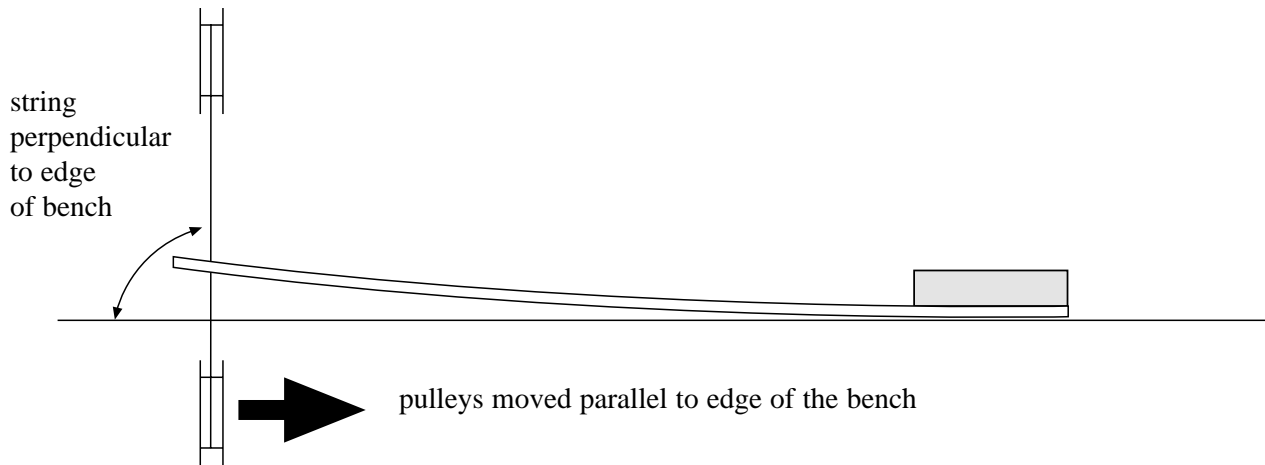

Figure 4
- (iii) Remove block B so that the ruler bends as shown in the plan view in **Figure 4**. Adjust the position of the stand so that the pulleys move **parallel to the edge of the bench** until all sections of the thread lie in the same vertical plane. Check that the section of thread joined to the ruler is **perpendicular** to the edge of the bench. **Do not adjust the clamping of the ruler or of the pulleys.**